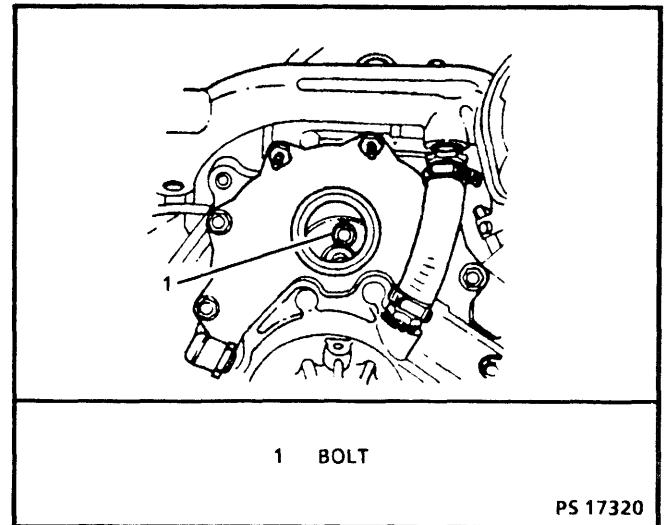

Figure 4-21 - Pump Drive Gear Bolts
- Access is gained through the oil filler neck hole (Figure 4-21).
4. Drive gear to injection pump bolts (Figure 4-21).